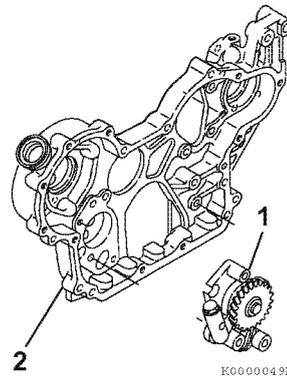

Figure 9-13
2. Remove the oil pump assembly bolts. Remove the oil pump assembly (1, **Figure 9-13**) from the gear case housing (2, **Figure 9-13**).